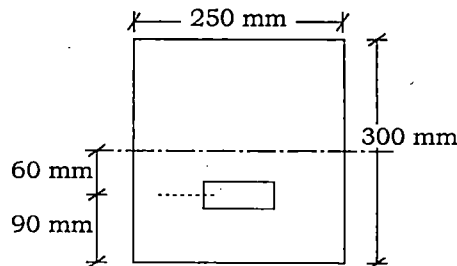

Fig. 7
- (b) A pre-stressed concrete beam section is 250 mm × 300 mm as shown in Fig. 7. The initial pre-stressing force is 450 kN at an eccentricity of 60 mm. The beam has a span of 5.75 m and has to carry a superimposed load of 7.5 kN/m. Analyze the beam section for the stresses produced at the mid-span before and after the application of load. Allow a loss of 15% :